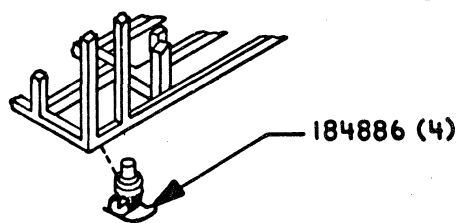

FIGURE 4.1
4.1 CASTERS ARE INSTALLED ON THE UNIT AT SHIPMENT TO FACILITATE MOVING IT AFTER IT HAS BEEN UNPACKED. ONCE UNPACKED, THE UNIT CAN BE WHEELED TO THE INSTALLATION AREA IN THE CUSTOMER'S OFFICE. WHEN THE UNIT IS IN POSITION, INSTALL CASTER LOCKS, P/N 184886 (4), AT EACH CORNER OF THE UNIT. FIGURE 4.1 ILLUSTRATES THE APPROXIMATE POSITIONING OF THE CASTERS AND CASTER LOCKS.